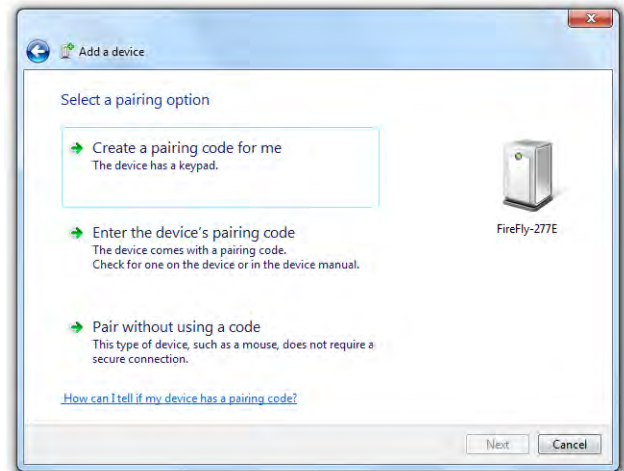

Figure 8-21. Providing a passkey (the default is 1234)
3. When asked to select a pairing option (see Figure 8-21), click "Enter the device's pairing code" and type **1234** when prompted.